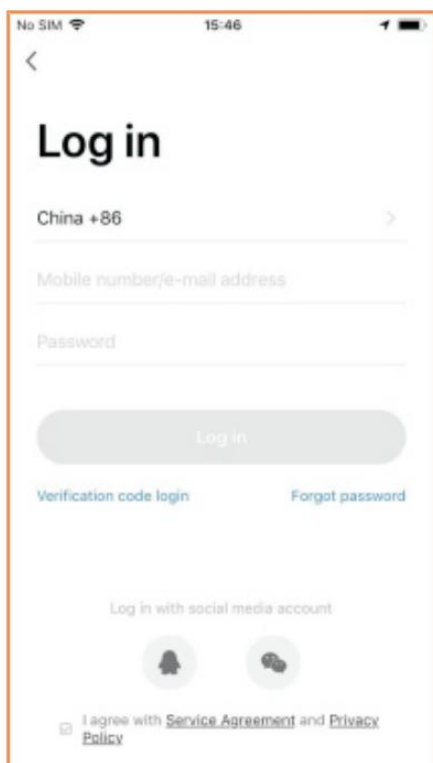

Fig.1
(1) Click "Verification code login" in Fig.1 to go to the next page.
(2) The system will identify automatically the country/region you are in, or you may also choose to select manually a country/region.
1. Cut off the power supply and install the mounting plate by screws. (Fig.1)